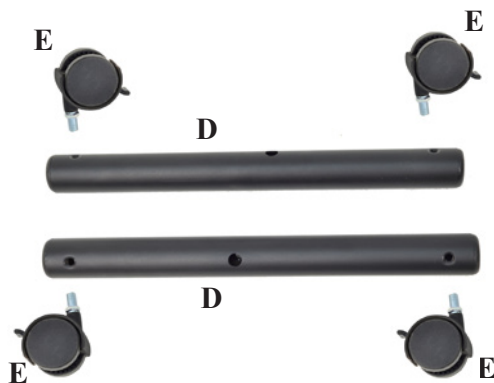

Figure 1
STEP 1: Attach 2 Casters (E) to each Foot (D) as shown in **Figure 1**.